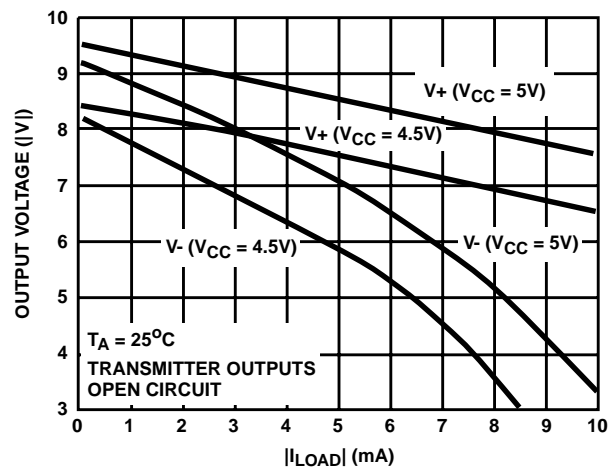

FIGURE 4. V+, V- OUTPUT VOLTAGES vs LOAD CURRENT
- See Figure 4 for definition.